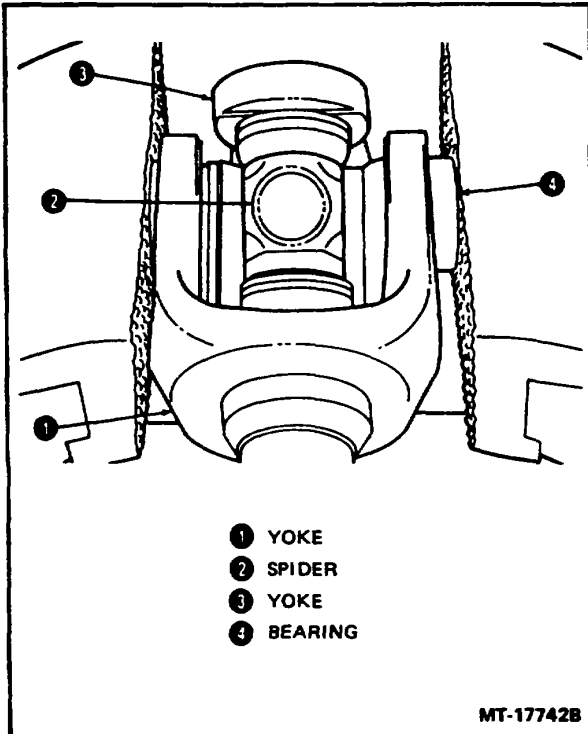

Figure 14 - Press Bearings Into Yoke
5. Place yoke in vise with bearings against jaws of vise. Tighten vise slowly and the bearings will be pressed into the yoke as shown in Figure 14.